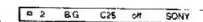

Fig. 24
- After selecting all the characters, press OK repeatedly until the cursor appears by the next programme position (at the left margin). Now the caption you chose is stored. (See Fig. 24)